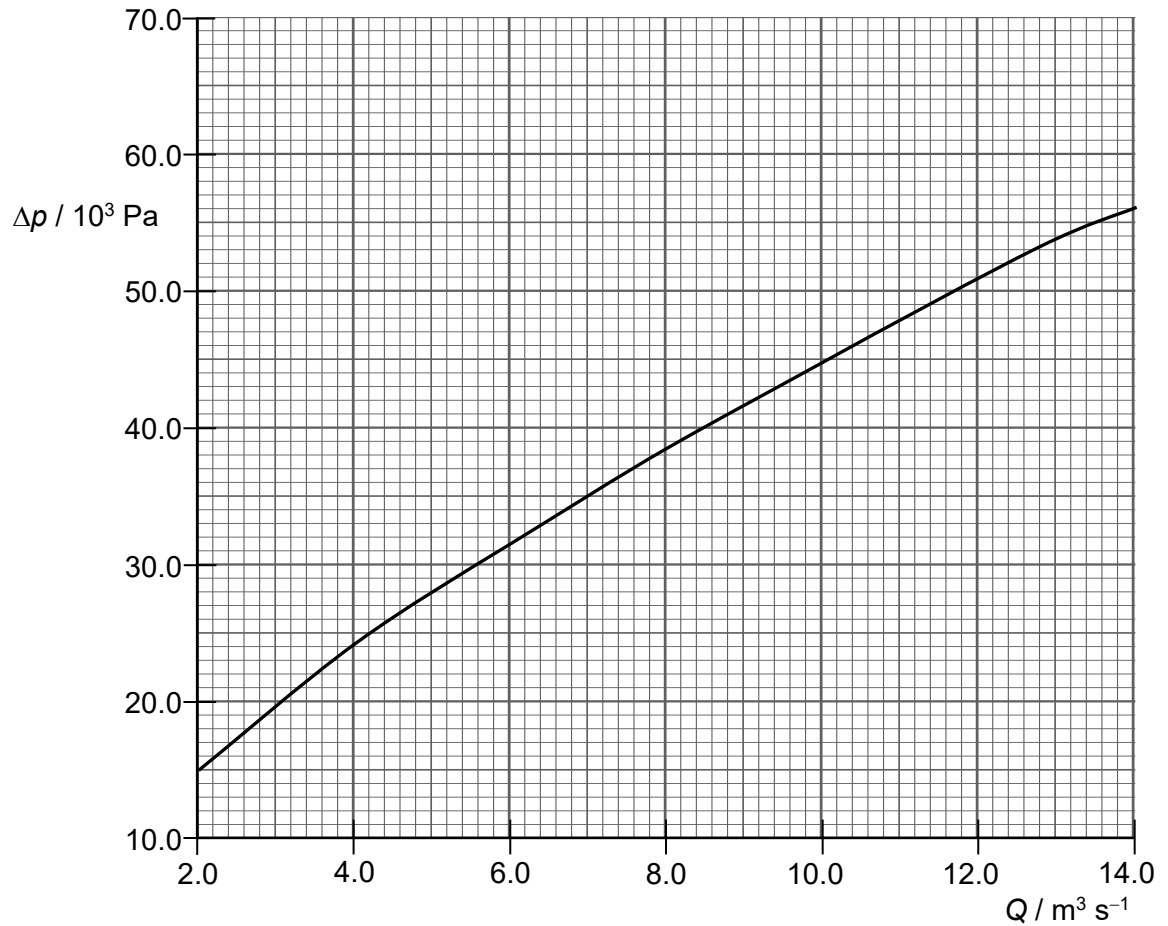

Fig. 7.2
The volume flow rate and pressure drop across the orifice plate are Q and Δp respectively. The variation with Q of Δp is shown in Fig. 7.2.
Data from Fig. 7.2 are used to obtain values of $\lg (\Delta p / \text{Pa})$ and $\lg (Q / \text{m}^3 \text{s}^{-1})$. These are plotted on the graph of Fig. 7.3.
(i) Use Fig. 7.2 to determine $\lg (\Delta p / \text{Pa})$ for $Q = 8.0 \text{ m}^3 \text{ s}^{-1}$.
- (iii) On Fig. 7.2, sketch a second graph to represent the results for oil, instead of water. [1]